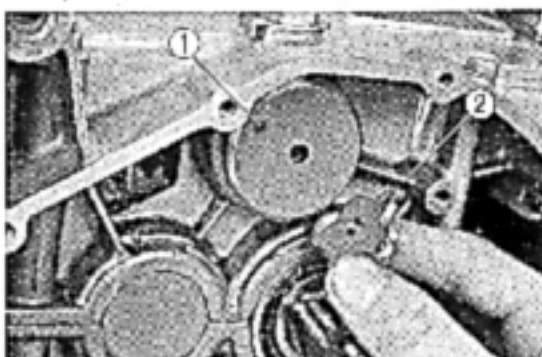

Fig. 131 ① Pin ② Cam plate
7. Insert the spring into the shift drum stopper, install the end of the spring into the crankcase groove as shown in Fig. 131, and tighten the shift drum stopper bolt. After tightening the bolt, make sure that the shift drum stopper operates smoothly. If there is excessive vertical looseness the shift drum stopper should be replaced.